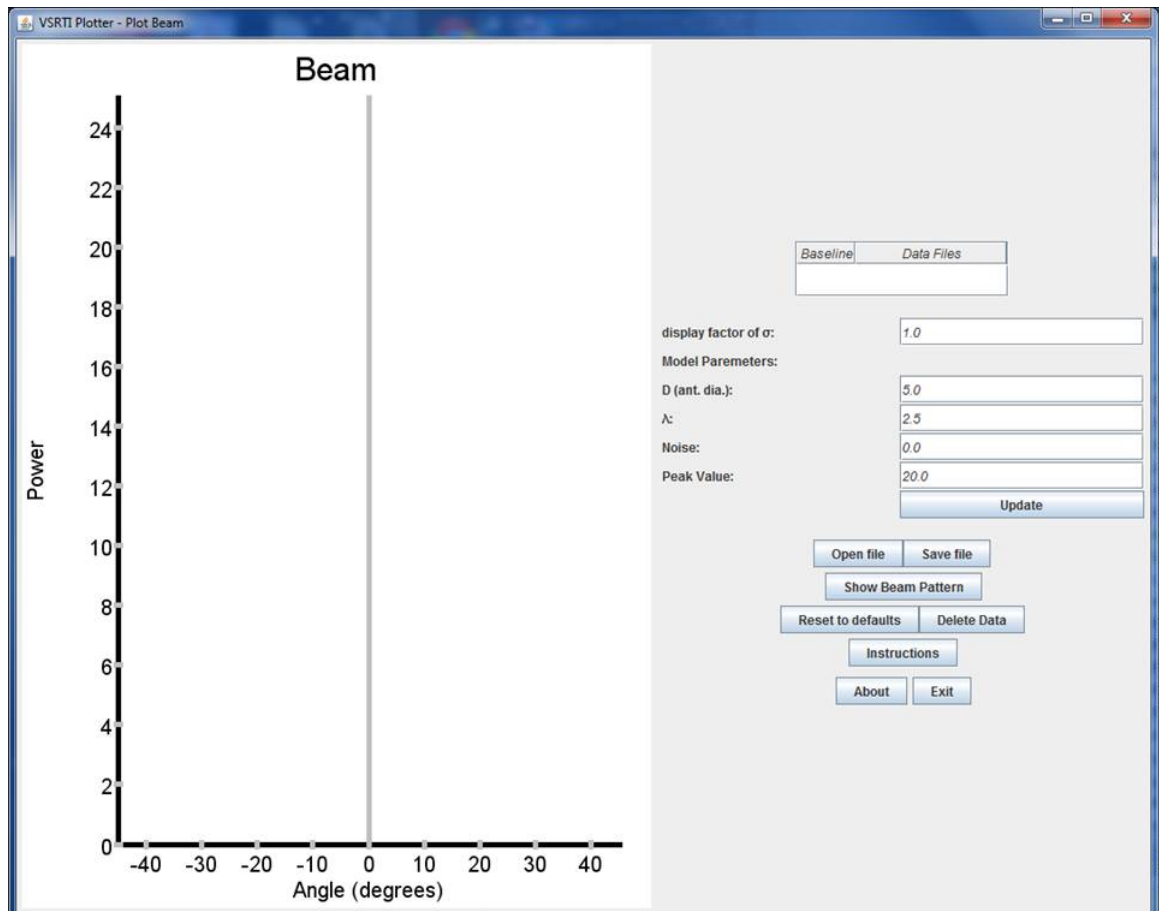

FIG. 6: The display when running “Plot Beam” in the VSRTI_Plotter package.
1. Click on the “VSRTI_Plotter” icon. A small rectangular window like that in Figure 5 should appear. This window gives you a choice of programs to run. The instructions for each lab will tell you which one you need for that lab. For now, select the “Plot Beam” program. You should see another window pop up, like that shown in Figure 6.